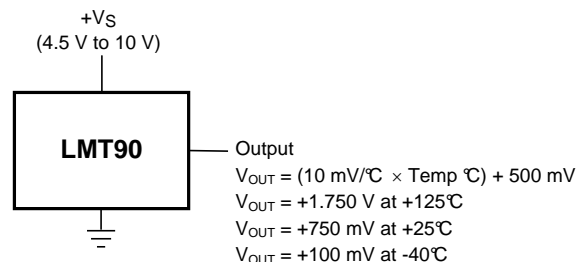

Figure 2. Full-Range Centigrade Temperature Sensor (–40°C to +125°C)
Unless otherwise noted, these specifications apply for  $V_S = +5 V_{DC}$  and  $I_{LOAD} = +0.5 \mu A$ , in the circuit of Figure 2. **Boldface limits apply for the specified  $T_A = T_J = T_{MIN}$  to  $T_{MAX}$ ; all other limits  $T_A = T_J = +25^\circ C$ , unless otherwise noted.**
- (1) Limits are specific to TI's AOQL (Average Outgoing Quality Level).
- (2) Accuracy is defined as the error between the output voltage and  $10 \text{ mV}/^\circ C$  times the device's case temperature plus 500 mV, at specified conditions of voltage, current, and temperature (expressed in  $^\circ C$ ).
- (3) Nonlinearity is defined as the deviation of the output-voltage-versus-temperature curve from the best-fit straight line, over the device's rated temperature range.
- (4) Regulation is measured at constant junction temperature, using pulse testing with a low duty cycle. Changes in output due to heating effects can be computed by multiplying the internal dissipation by the thermal resistance.
- (5) Quiescent current is defined in the circuit of Figure 2.
- (6) For best long-term stability, any precision circuit will give best results if the unit is aged at a warm temperature, and/or temperature cycled for at least 46 hours before long-term life test begins. This is especially true when a small (Surface-Mount) part is wave-soldered; allow time for stress relaxation to occur. The majority of the drift will occur in the first 1000 hours at elevated temperatures. The drift after 1000 hours will not continue at the first 1000 hour rate.